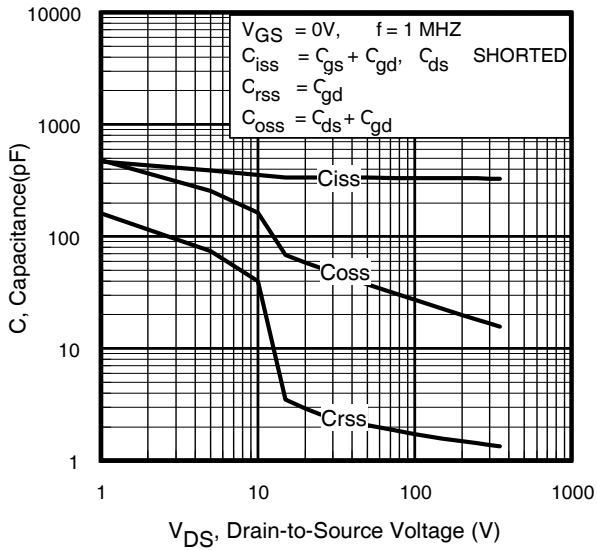

Fig 5. Typical Capacitance Vs. Drain-to-Source Voltage
| C_{riss} | Reverse Transfer Capacitance | — | 2.7 | — | | $f = 1.0\text{MHz}$, See Fig. 5⑥ |